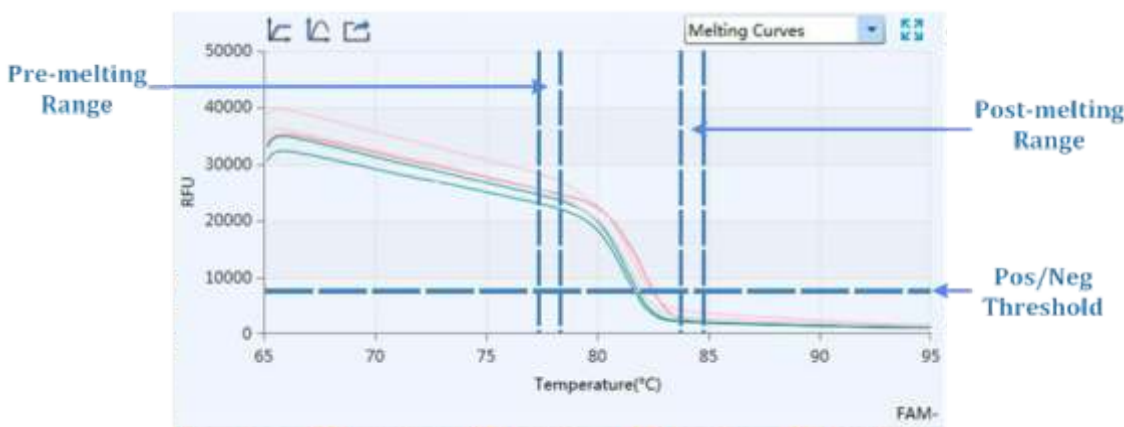

Figure D-14.1 HRM analysis interface - Melting Curves functional module
I. **Melting Curves:** display the fluorescence intensity against the temperature, as shown in figure D-14.1.